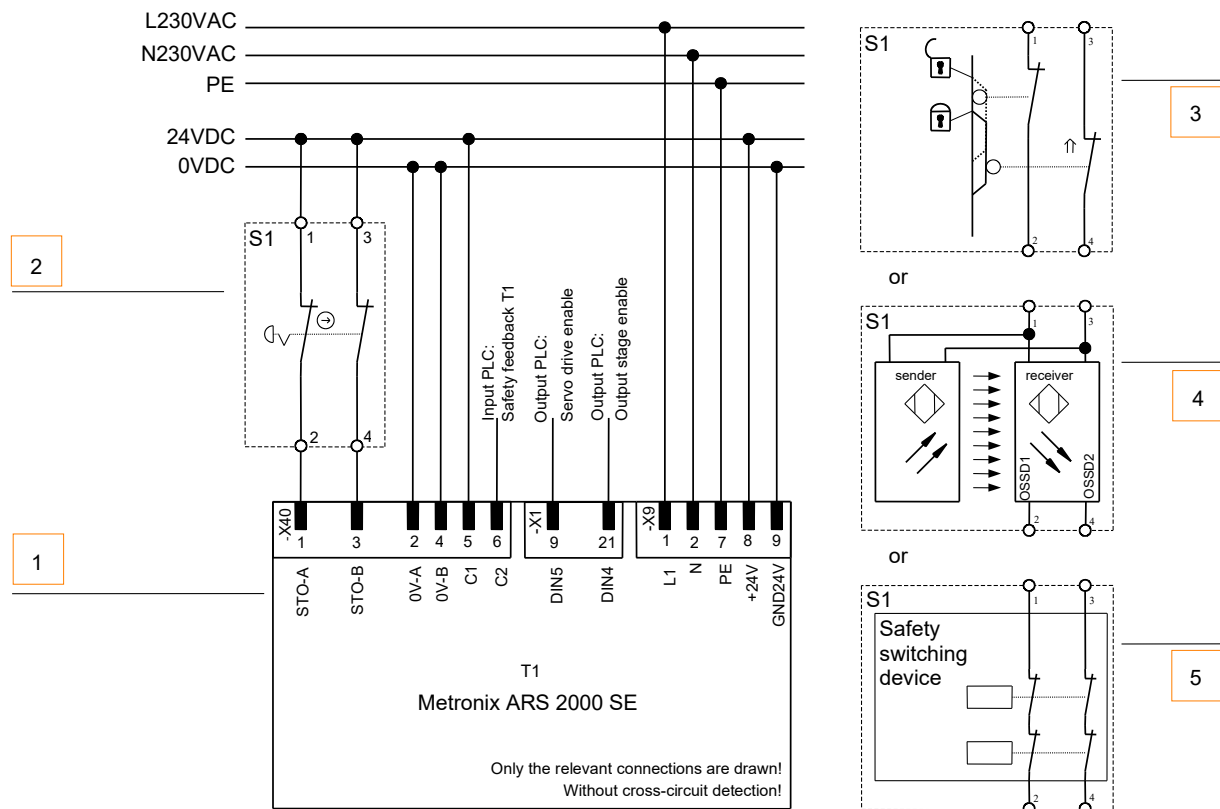

Figure 6: Connection of the integrated STO function, example of single-phase servo drive ARS 2000 SE
In order to ensure the STO “Safe Torque Off” functions correctly, the control ports STO-A and STO-B are to be connected in two channels with parallel wiring, see Section 3.3, Figure 6.
For the initial start-up of the servo drive without safety equipment, the servo drive ARS 2000 SE can be equipped with an emergency stop switch (2) with minimum wiring as per Figure 6.